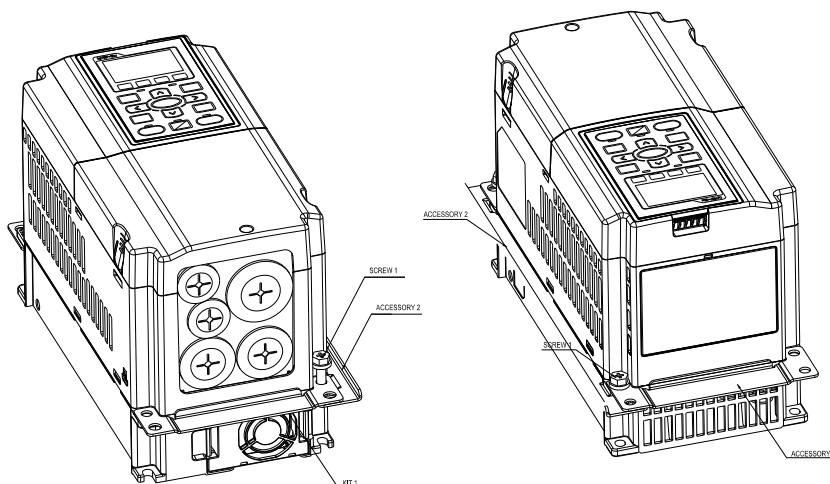

Figure 1
1. Fasten screw\*2(M6) and accessory 2&3. Screw torque: 25~30 kg-cm / [21.7~26 lb-in.] / [2.5~2.9 Nm] (figure 1)